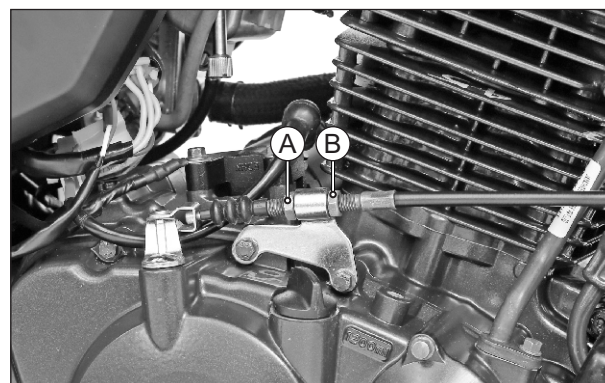

Fig. 2.70
- If the play is more or less, loosen the lock nut (A) and turn the adjusting nut (B) 'in' or 'out' until the specified play is obtained. And then tighten the lock nut (A), while holding the adjusting nut (B) in the same position. (Fig. 2.70)